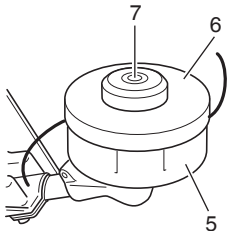

Fig. 3
- Check the cover (5), case (6) and other components for cracks or other damage. (Fig. 3)
If there is a hole in the bottom (7) of the button, change the new parts immediately. (Fig. 3)